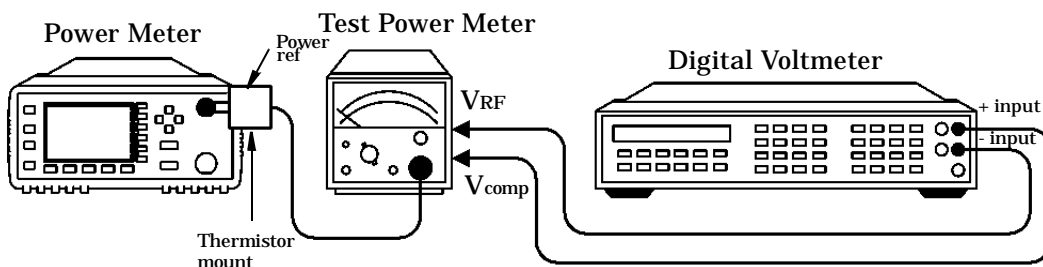

Figure 2-9: Output Standing Wave Ratio Test Setup
9. Connect the equipment as shown in Figure 2-9 ensuring that the DVM input leads are isolated from chassis ground.
- Connect the equipment as shown in Figure 2-9 ensuring that the DVM input leads are isolated from chassis ground.